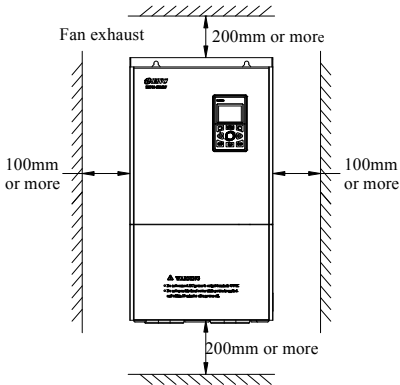

Fig.3-1 Installation distance sketch map
(1) Normally the inverter should be mounted vertically, Horizontal mounting will seriously affect heat dissipation and the inverter must be used in lower volume.
(2) Demand for minimum mounting space and distance, Please see Fig.3-1.